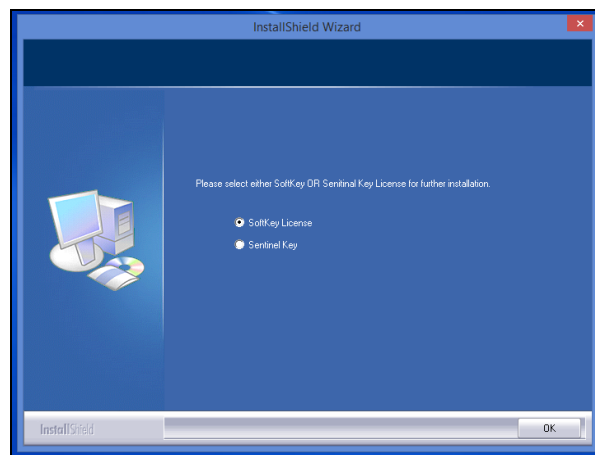

Figure 3. Software Key License
- a. If the user has a HunterLab USB hardware key, then it can be used with a new sensor on the same computer. Return to Install the Software, Step 5 (Figure 3) and select the Sentinel Key to continue.